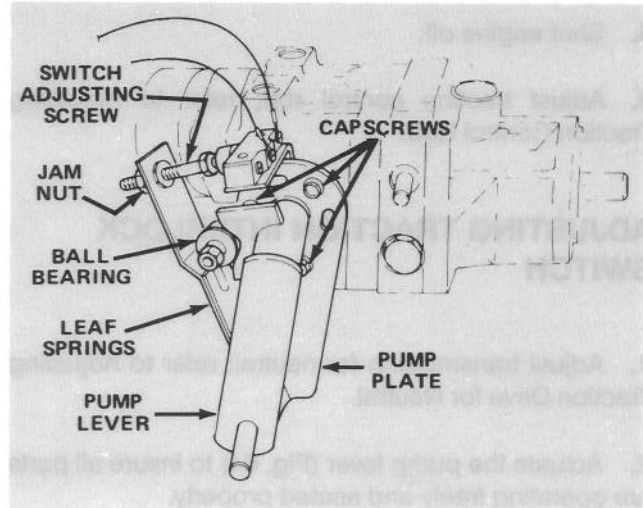

Figure 54
1. Park vehicle on a level surface and turn engine off. Apply the parking brake, tip seat forward, and actuate pump lever (Fig. 54) to insure assembly is properly seated and operating freely. Correct any discrepancy.
6. Because the wheel is rotating, the pump plate must be adjusted. But before adjusting the pump plate, move throttle to SLOW. If wheel is rotating forward, loosen capscrews, and lightly tap bottom of pump plate counterclockwise (Fig. 54). By contrast, tap pump plate clockwise if wheel is rotating backward (Fig. 54). When wheel stops rotating, tighten capscrews holding pump plate against side of transmission. Verify the adjustment with throttle in SLOW and FAST position.
- A. Ball bearing is loose or worn out (Fig. 54).
F. Weak or damaged leaf springs (Fig. 54). Replace.
2. Actuate the pump lever (Fig. 54) to insure all parts are operating freely and seated properly.
3. Loosen jam nut. Rotate switch adjusting screw (Fig. 54) until there is a gap between head of screw and switch button.